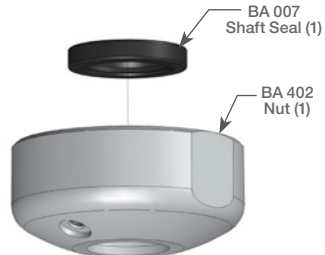

Figure 10: For Step 13
4. Install Backup Ring (BC 031) and O-ring (BC 040) into groove on the Seat Face (BA 426) in orientation shown in Figure 10. **Grease around both rings.** Apply anti-seize on threads prior to installation. Thread the Seat Face into Head and tighten to approximately 10 ft*lbs.